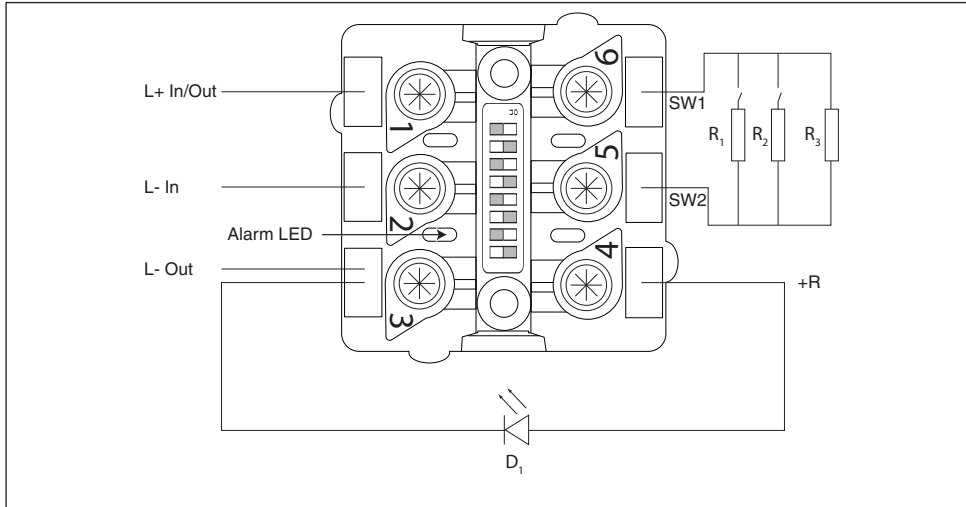

Fig 1 – Connections to the Terminals.
1. Connect loop wiring to terminals as shown in **Fig 1**. If the short circuit isolator is not required then both negative lines need to be wired into terminal 2.
4. Terminals five and six are used for monitoring the contacts. See **Fig 1** for wiring options.